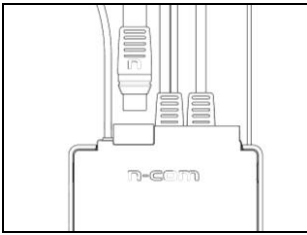

Fig. 6
- Line up the keypad flex connector to the e-box making sure that the letter “n” is pointing as shown in Fig. 6.
N.B. If the system does not work, remove the flex and repeat the previous operation, making sure that the “n” is positioned as in Fig. 6.